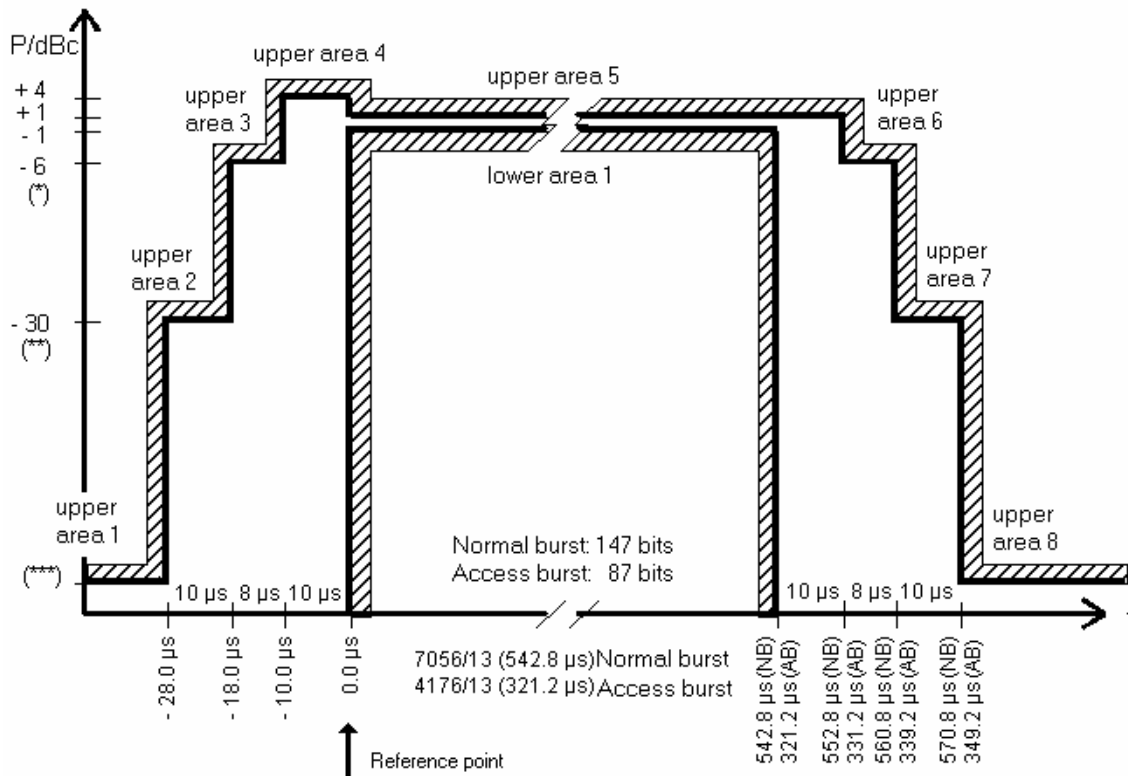
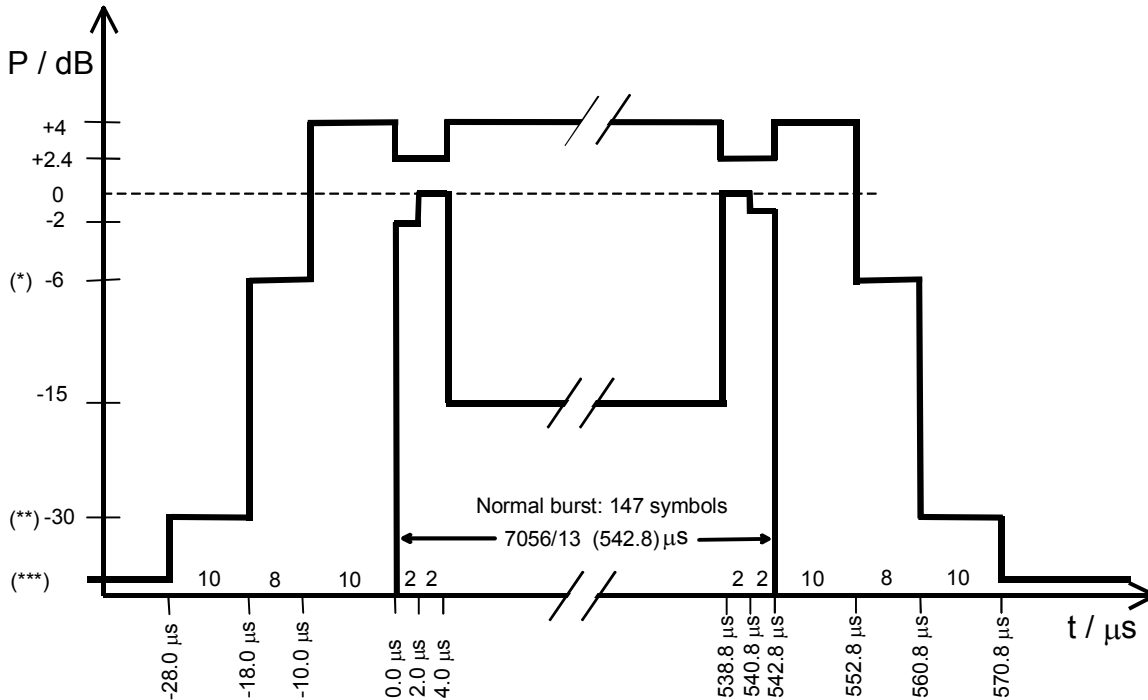

Fig. 4-12 GSM power/time template for normal and access bursts with GMSK modulation
Fig. 4-13 GSM power/time template for normal bursts with 8PSK modulation (according to GSM05.05 version 8.5.0; see explanation after previous figure)
The tolerance template for normal (NB) and access bursts (AB) can be divided into different areas. These areas are used as a basis for the definition of the limit lines and are shown in the following diagram (Fig. 4-12).
The two edges of the tolerance templates are defined as a function of the power control level of the mobile phone. The following specifications apply to both modulation schemes (Fig. 4-12 and Fig. 4-13):
The power template for 8PSK burst differs from the GMSK power template; see Fig. 4-13 below. In analogy to GMSK modulation, the limit lines at the edges of the burst depend on the PCL of the mobile phone.